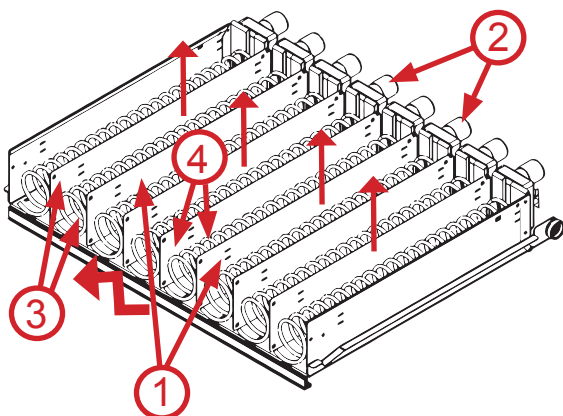

Figure 6.6 - Shelf with single cells
1. Remove the four shelf barriers in the direction shown by arrows in fig. 6.6.